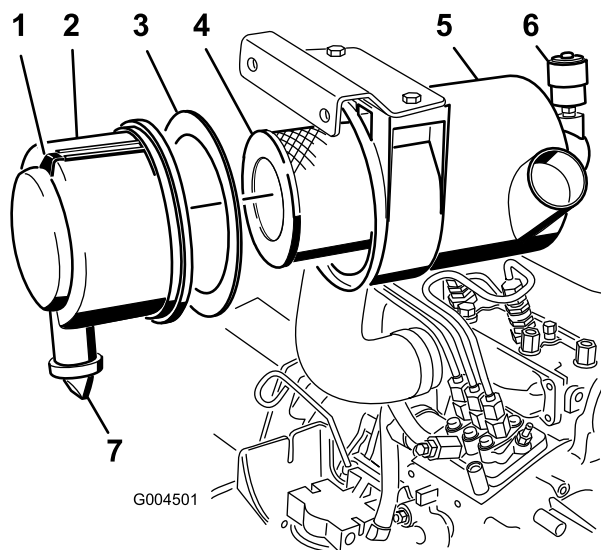

Figure 40
- Service the air cleaner filter when the air cleaner indicator (Figure 40) shows red or every 400 hours (more frequently in extremely dusty or dirty conditions). Do not over service the air filter.
1. Pull the latch outward and rotate the air cleaner cover counter-clockwise (Figure 40).
2. Remove the cover from the air cleaner body (Figure 40).
4. Remove and replace the primary filter (Figure 40).
6. Ensure that the foam gasket is in place in the cover and that it is not torn or damaged (Figure 40). If it is damaged, replace it.
- A. Remove the rubber outlet valve from the cover (Figure 40).
10. Reset the indicator (Figure 40) if showing red.